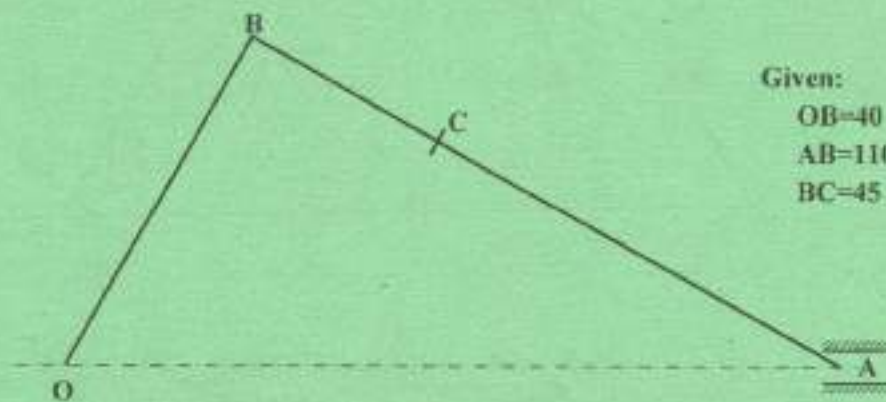

Fig. 3
- (c) **Figure 3** shows the layout of a crank mechanism, in which **OB** rotates about **O** and **A** slides as shown.